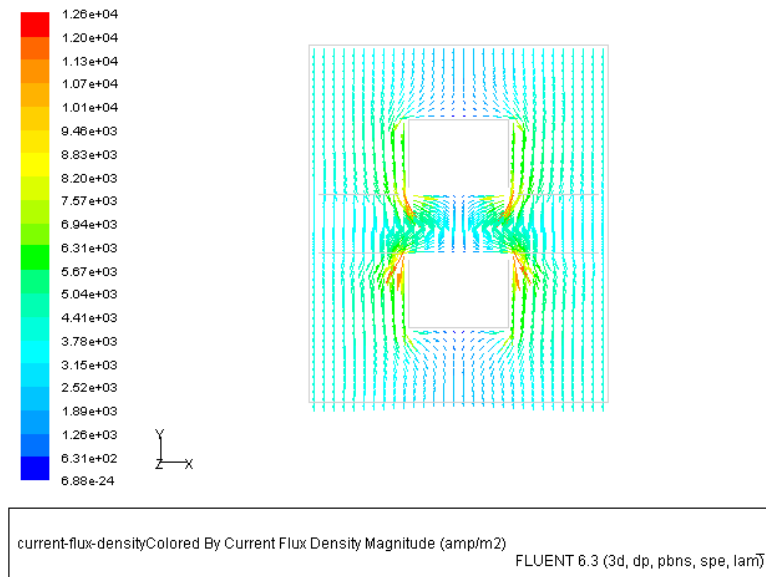

Figure 5: Current Flux at a Cross-Section Midway Down the Length of the PEM Channel
4. Compare your results with those shown in Figure 5.